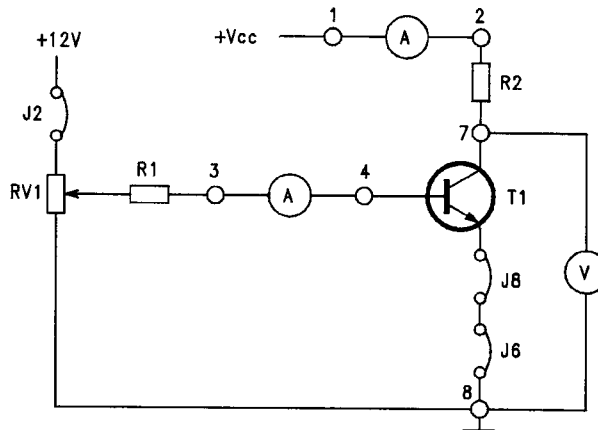

fig.B17.5
- Connect jumpers J2, J6, J8, and the meters as indicated in fig.B17.5. The voltage V_{CE} can also be measured with an oscilloscope